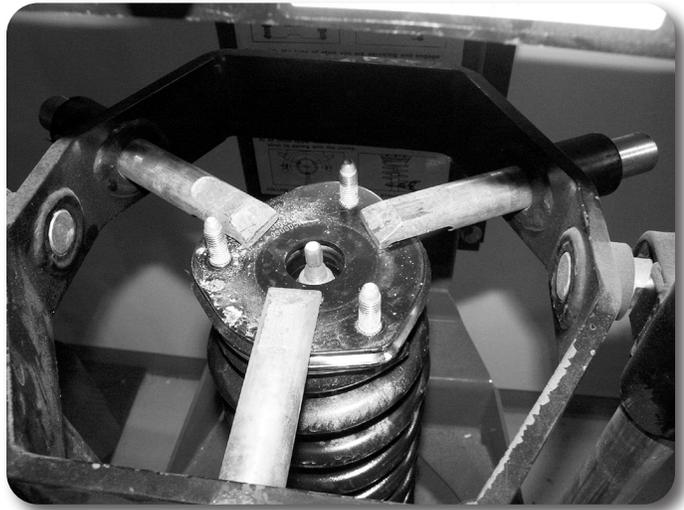

Figure 4
12. Using an appropriate strut compressor, compress the coil spring and remove the upper strut nut. Remove the strut, strut cap and upper coil seat from the coil spring. Fig. 4